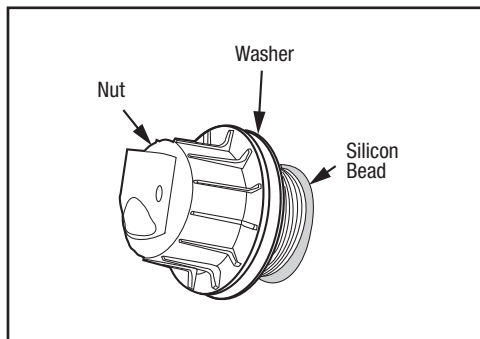

Figure 2. Secure Fiberglass Niche with Nut/Washer
7. From outside of the pool, feed the Washer and then the Nut (large face first) onto the cable. Again, there is no need to uncoil the cable, but you may need to squeeze the ends of the cable slightly to allow it to pass through. Ensure that the Nut and Washer are free of debris. (Leave the Nut and Washer on the cable for now). See *Figure 2*.
8. Ensure that the niche is still in position against the pool wall (pull it towards yourself). Verifying that the conduit connection point is still facing upwards, apply a heavier bead of silicone into the hole in the pool wall. (Fill the area between the pool wall and the Niche and slightly onto the niche thread.). See *Figure 2*.